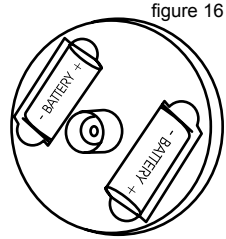

figure 16
- Be sure the batteries are installed in the correct direction. Install two new “C” type batteries into the Battery Compartments, following the imprinted battery diagram inside the Battery Compartments (figure 16).